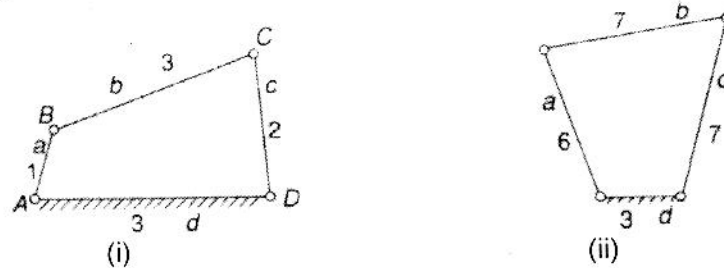

Figure 3
- b) Find the maximum and minimum transmission angles for the mechanisms shown in the figure 3. The figures indicate the dimensions in standard units of length.